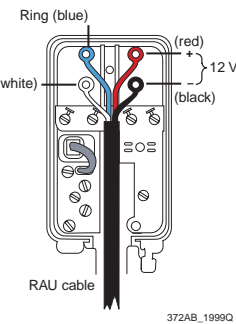

Figure 21. RAU cable
3. Connect the RAU cable to the junction box as shown in Figure 21 and Table 11.